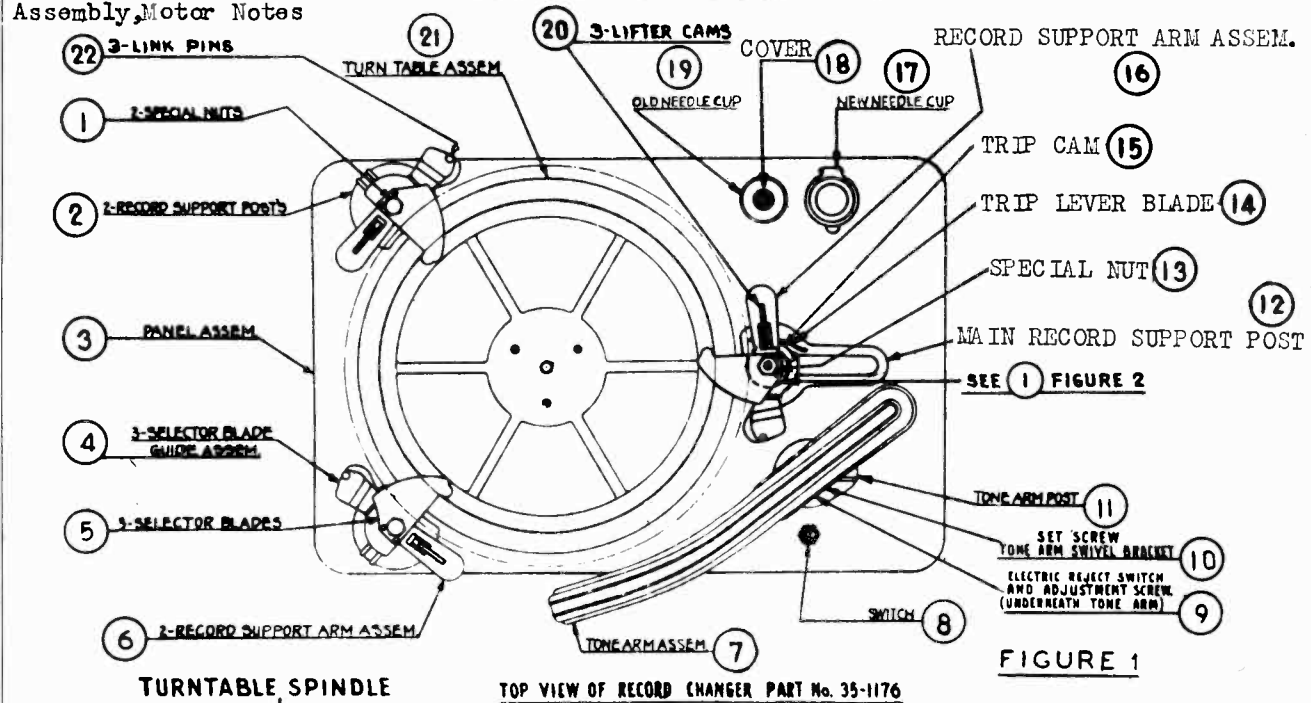

FIGURE 1
1. Adjust screw (9) Fig. 1 located in the tone arm directly above the end of the tone arm shaft. Turn this screw in the direction necessary to obtain a clearance of $\frac{1}{16}$ " between the bottom of the groove in the turntable and the bottom end of the needle.